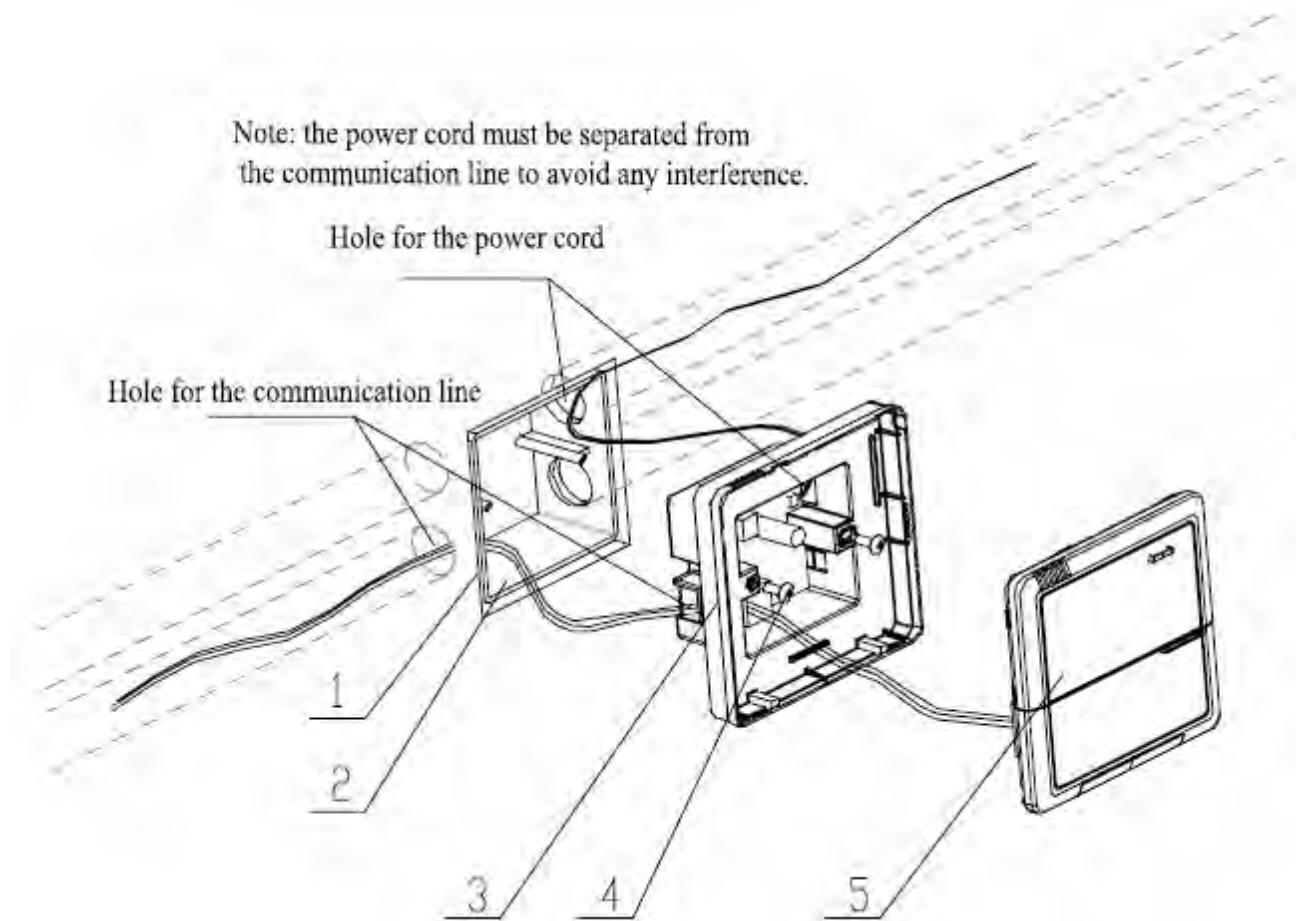

Fig. 5.5.6 Installation Diagram
- b. Embed the power supply box (2) as Fig.5.5.6 for the installation of the bottom case (3).
- c. Connect the power cord and the communication line of the display board and then let both go through the power supply box (2).
- d. Fix the bottom case on the power box (2) by screws.
- f. Close the cover (5)